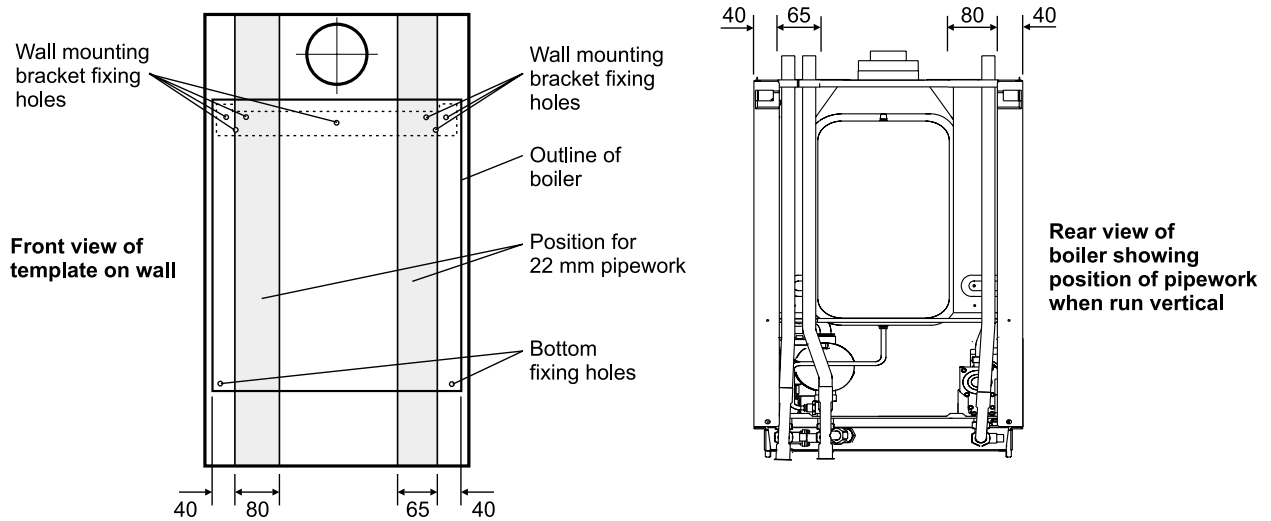

Fig. 10
- Top pipe connections** - Perform the pipework at the back of the boiler before hanging the boiler, see Fig. 10, and secure in the clips provided.
4.4 FIT THE BOILER - Refer to Fig. 10